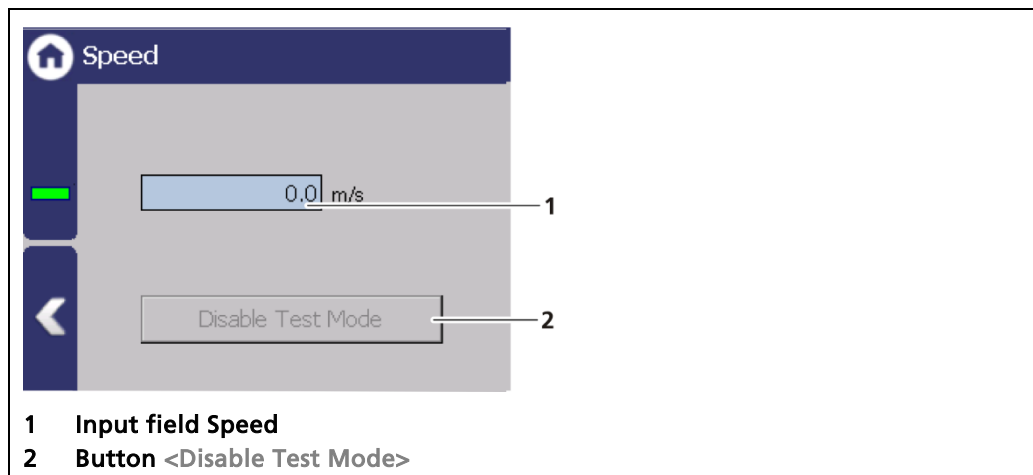

Fig. 131 Simulation speed
1. Click on the input field (Fig. 131, item 1) and enter the value for the simulation.
3. Click on the <Disable Test Mode> button (Fig. 131, item 2) to stop the simulation.